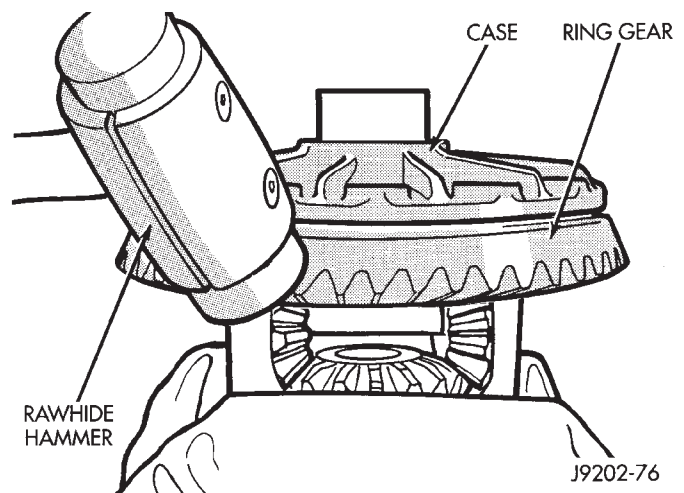

Fig. 34 Ring Gear Removal
- (1) Remove differential from axle housing.
- (2) Place differential case in a suitable vise with soft metal jaw protectors. (Fig. 34)
- (3) Remove bolts holding ring gear to differential case.
- (4) Using a soft hammer, drive ring gear from differential case (Fig. 34).